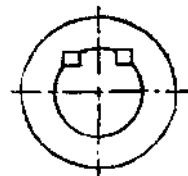

Fig.2.4
8. Fig.2.4 shows a key used for heavy work. It is